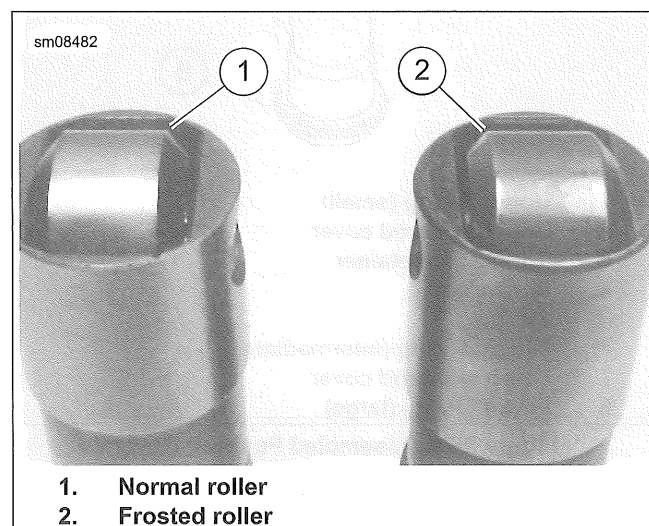

Figure 4-25. Roller Inspection
- c. See Figure 4-25. A dull lifter roller surface is called frosting (2). Frosting is a cosmetic condition and does not affect function.